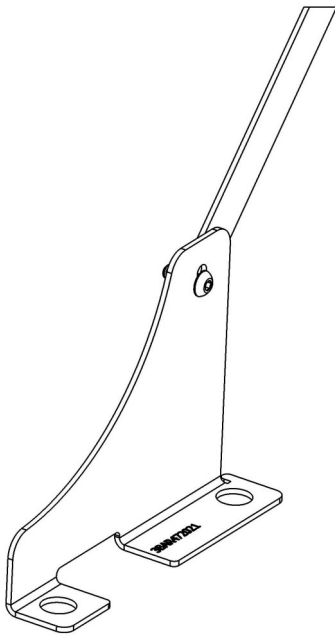

Figure 7
- Using (4) [3X611] button head screws loosely secure the bottom flange of the Barrier to the Barrier Support Brackets.
- Set the driver side Barrier Diagonal Support Bar on the outside of the Driver Side Barrier Bracket and loosely secure using (1) [3X611] screw and (1) [3X619] whiz nut (Fig. 7). Repeat for the Passenger side using another [3X611] screw and [3X166] whiz nut.